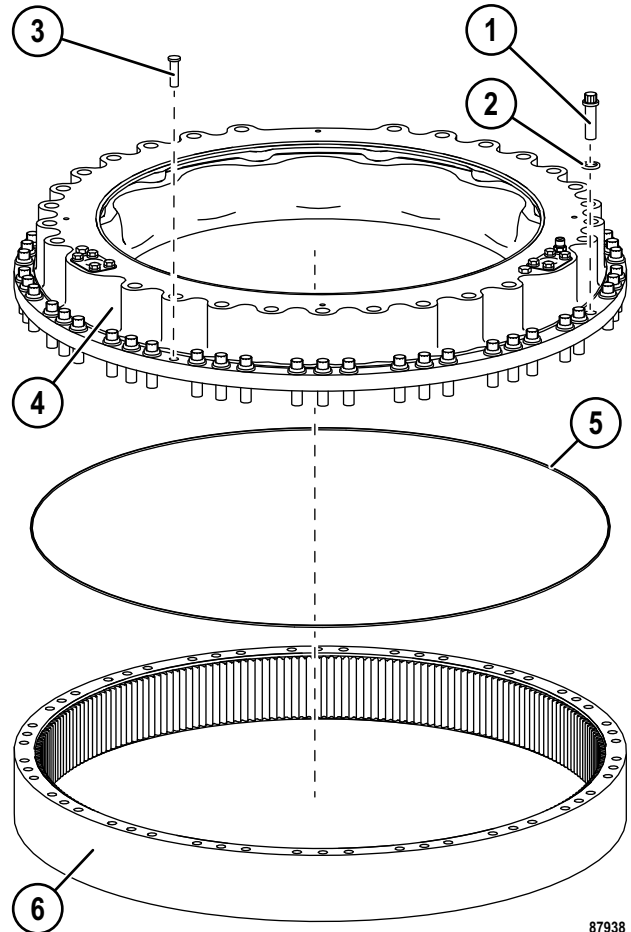

FIGURE 50-48. PISTON ASSEMBLY REMOVAL & INSTALLATION
18. Remove capscrews (1, Figure 50-48) and hardened washers (2) from piston housing.
19. Insert 3/4" - 10UNC x 2" pusher bolts (3) in each of the three tapped holes around the piston housing flange. Tighten the bolts evenly to lift the piston assembly from outer ring gear (6).
20. Remove and discard O-ring (5).